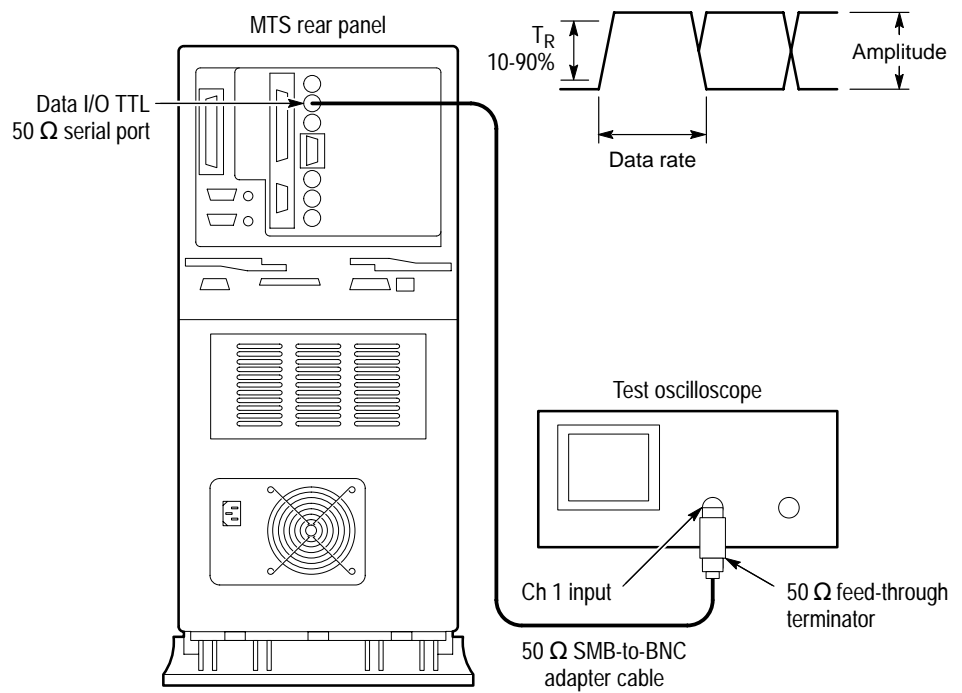

Figure 15: Setup for measuring the TTL 50 ohm data I/O port
- 19. Move the Test System output cable to the TTL 50 Ω Data I/O Port. See Figure 15.
22. Check for an amplitude of approximately 3.0 volts, a data rate of 45 MHz and a rise time of approximately 2.0 ns. See Figure 15.